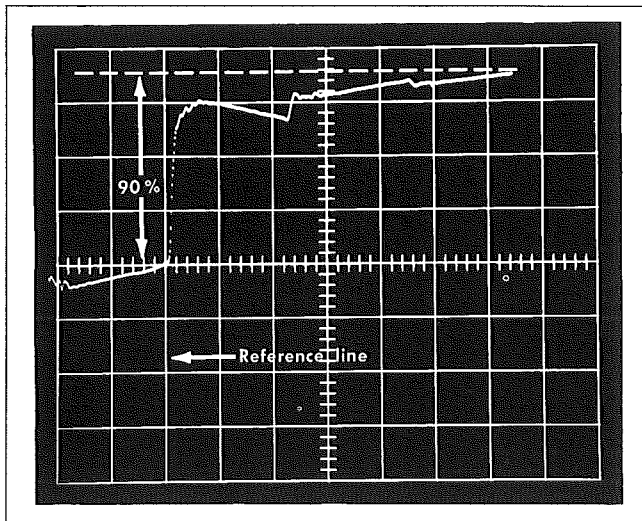

Fig. 2-12. Establishing the turn-off reference line from the 90% level of the switching-pulse trailing edge.
- Readjust the oscilloscope sweep rate to display the switching-pulse trailing edge as shown in Fig. 2-12. Horizontally position the display so the 90% level coincides with a convenient vertical graticule line. This establishes the turn-off reference line; therefore, do not change the horizontal position of the display during the rest of this procedure.